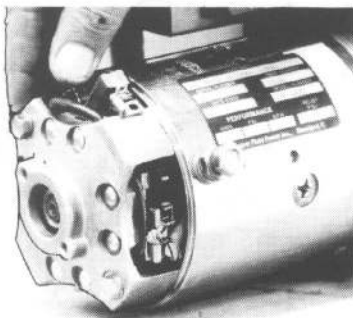

Figure 2-3
4. Carefully pry back the tension spring and remove the brush. See Figure 2-3.
7. Carefully pry back the tension spring and install brush. See Figure 2-3.
8. Install terminal screw through both terminals, ensure terminals are in position shown. See Figure 2-3.